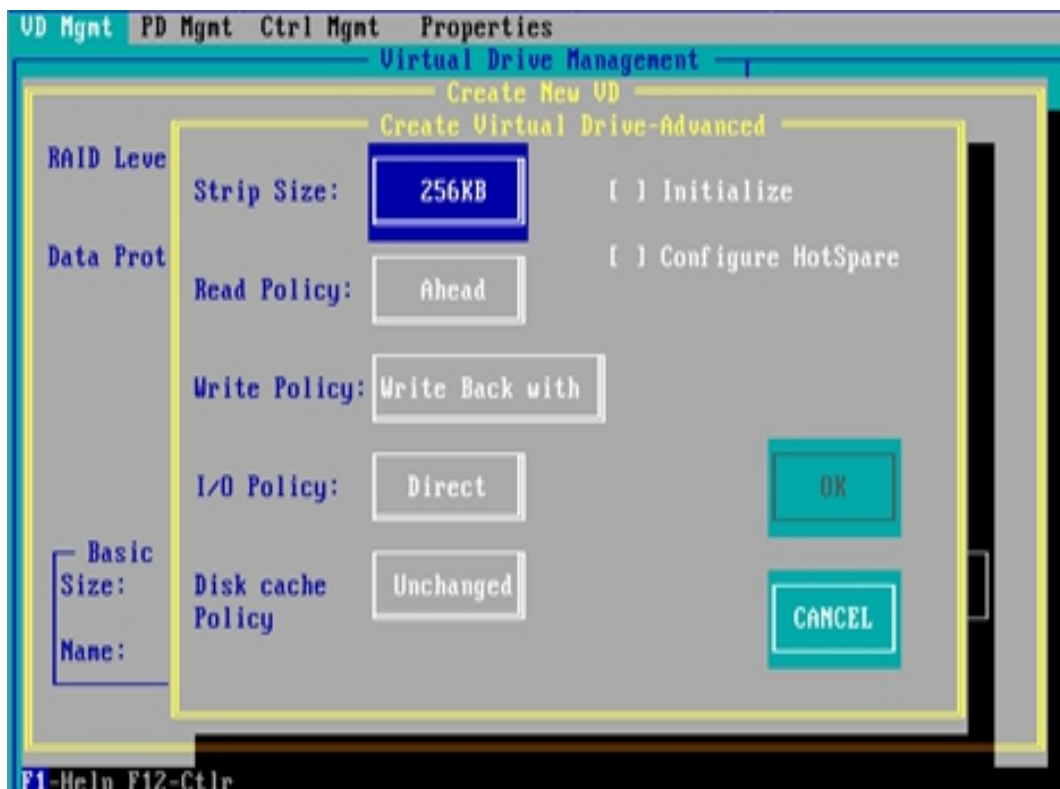

Figure 6-112
g) Enter the interface shown in figure 6-112, set relevant parameters, then select OK and press enter.
✧ Figure 6-112 setting advanced parameters